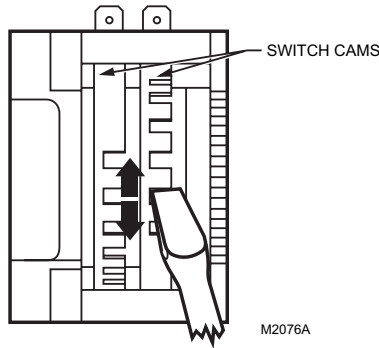

Fig. 14. Auxiliary switch cam adjustment.
5. With a screwdriver, move the cam inside the switch assembly to the appropriate position, remembering cam travel direction for switching purposes (see Fig. 14) when turning switch on or off. Monitor switch closure with ohmmeter for a continuity check. Normally closed contact should measure zero ohms and normally open contact should measure infinite ohms when switch is not activated. The opposite is true when switch is activated.